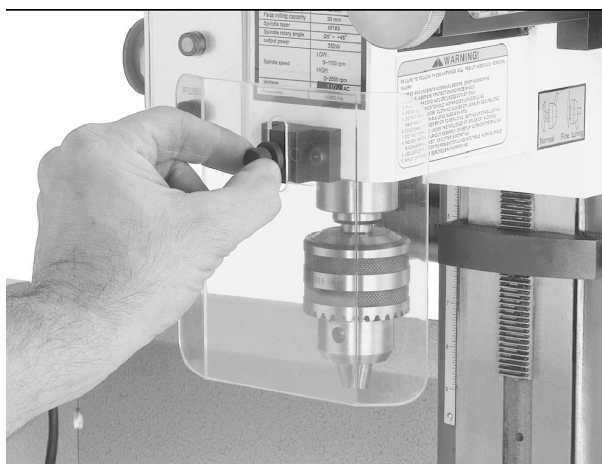

Figure 3. Attaching eyeshield to the mill / drill head.
1. Attach the eyeshield to the mill / drill with the knurled knob as shown in **Figure 3**. *Note the eyeshield provides the best coverage when it is positioned down as it can go.*